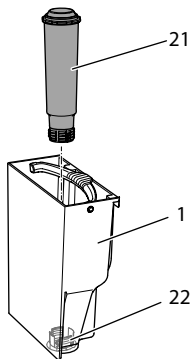

Fig. 15: Screwing/Unscrewing the water filter
- Remove the water filter (see Fig. 15 on page 48).
9. Insert a new filter in the water tank (see *Fig. 15*).
3. Remove the water filter (see *Fig. 15*).